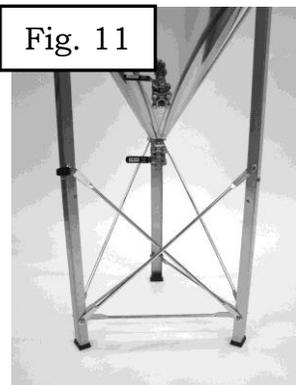
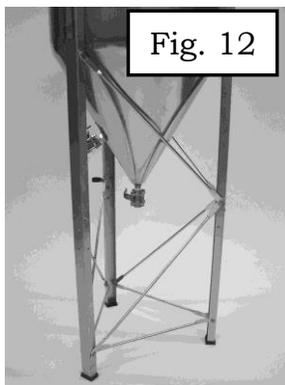
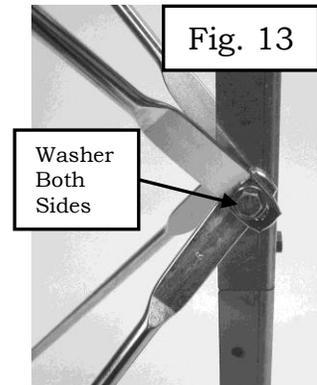

Fig. 11
Fig. 12
Fig. 13
The leg extensions allow for gravity draining into a keg or bottling bucket. Additional bracing is required for the 42 gallon model as compared to the 27 gallon one to bear the additional weight of the unit. assemble the three leg braces (horizontal bars) and cross braces (angles bars) as shown in Fig. 11 and Fig. 12. It is recommended that you install all of the hardware finger tight first, and tighten the assembly when all fasteners are in place. This will allow slight adjustments of position as needed for ease of assembly. You will have 3 cross braces with an “L” stamped on one end, and 3 cross braces with an “R” stamped on the end. Note that the horizontal braces go on the inside of the leg, and the cross braces go on the outside of the leg. The washers also go on the inside of the leg as shown to cover the holes in the horizontal leg brace. Washers are also needed on the outside of the cross braces to cover the slotted hole as shown in Fig. 13 below.
**Note:** it is not necessary to install the 90 deg elbow on the bottom dump assembly when using the leg extension kit. This will allow the trub and yeast to flow more freely from the dump valve (see Fig. 11).